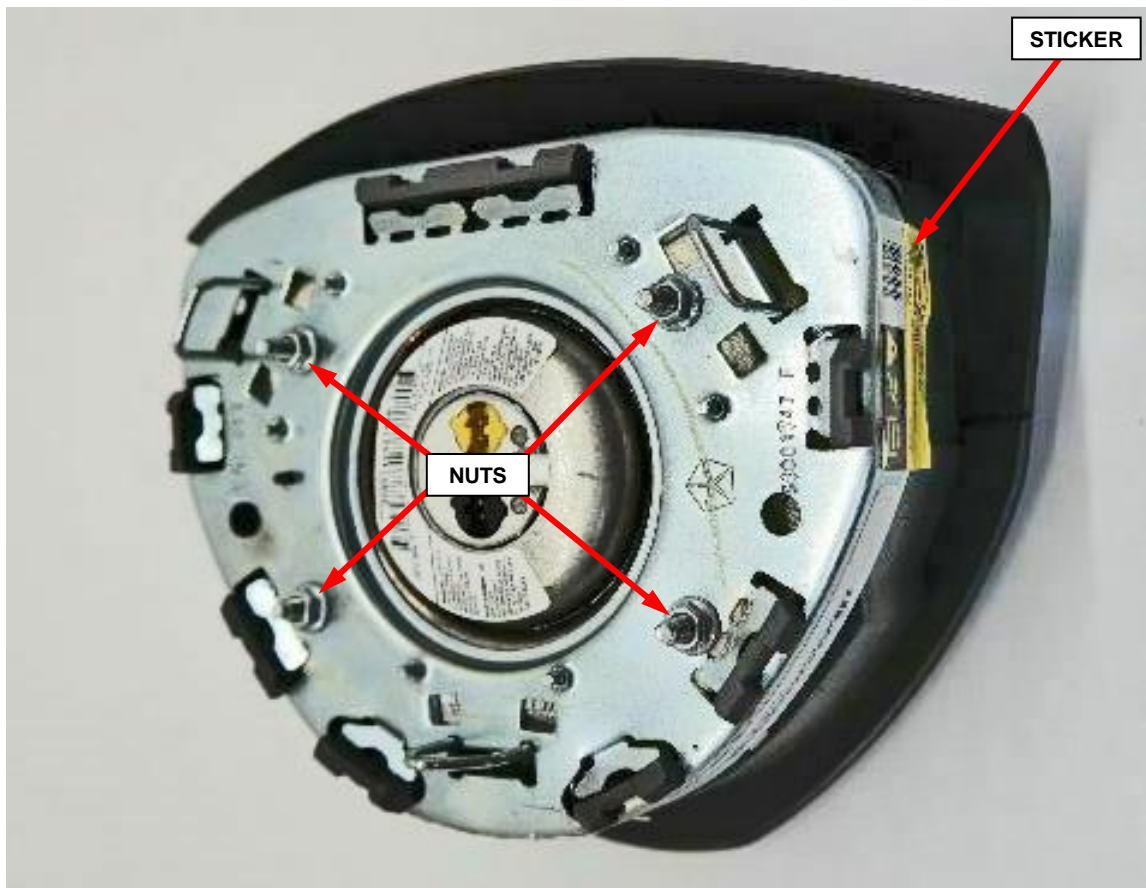

Figure 22 – Backing Plate Nuts and “Do Not Tamper” Sticker
5. Reapply the “Do Not Tamper” sticker that overlaps both the plastic cover and the backing plate (Figure 22).
6. Install the four nuts securing the backing plate and tighten in a star pattern sequence to 5 N·m (44 in. lbs.) (Figure 22).